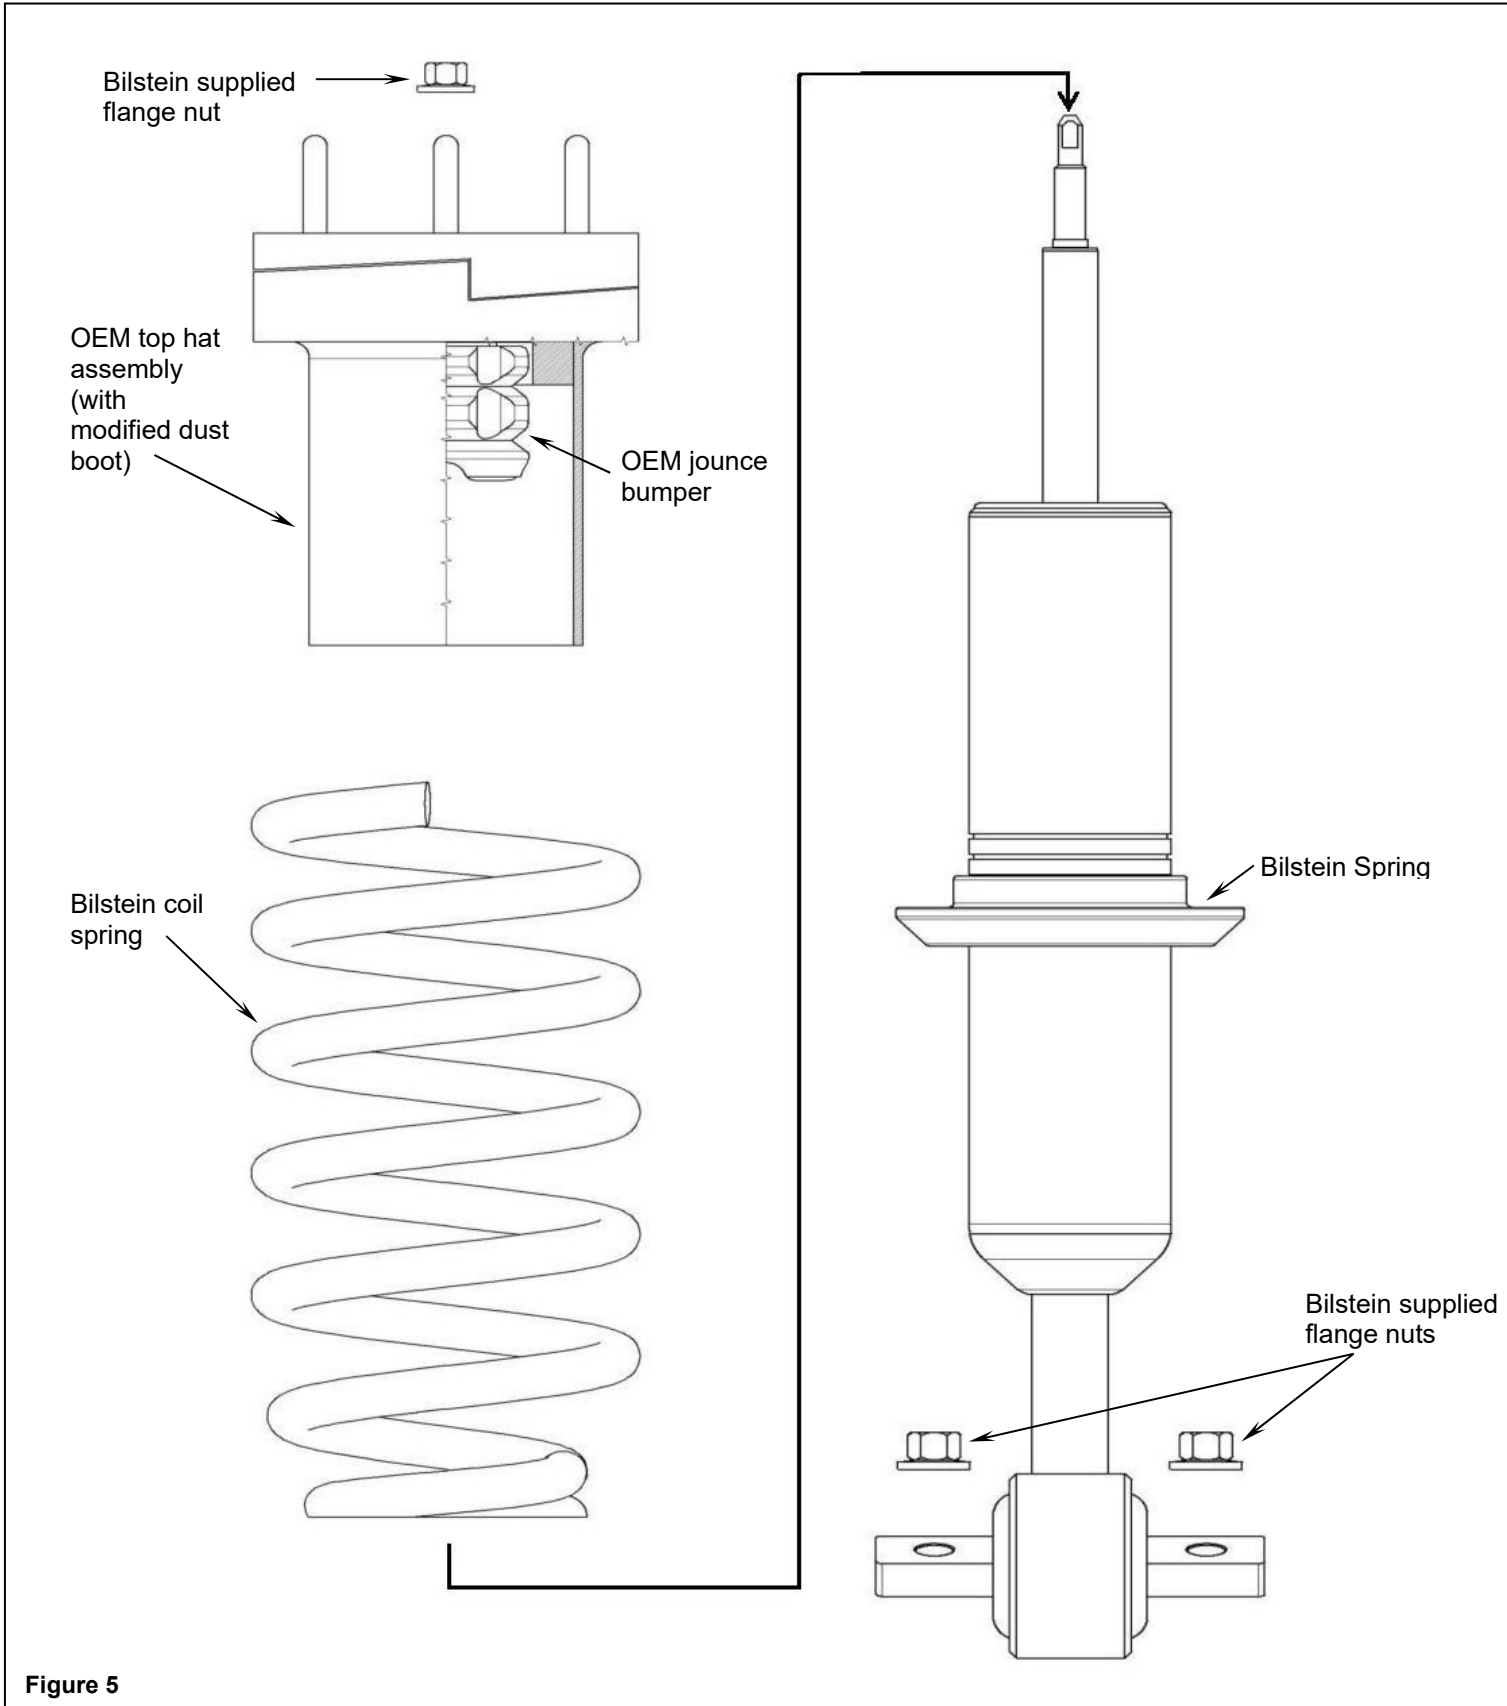

Figure 5
- G. Using an appropriate spring compressor, compress the Bilstein coil spring and assemble it with the new Bilstein shock. Ensure that the Bilstein coil spring is installed in the direction shown only. Refer to Figure 5.
- H. Install the OEM top hat assembly (which includes the modified OEM dust boot, OEM top mount plate, and OEM jounce bumper) over the threaded stem on the new Bilstein shock and on top of the spring. Refer to Figure 5.
- K. Install the provided new Bilstein flange nut onto the piston rod tenon and tighten to 25 Nm (19 lb/ft). Refer to Figure 5 (shown above the top hat assembly). Use a 6mm wrench to keep the piston rod from rotating while torqueing the nut.